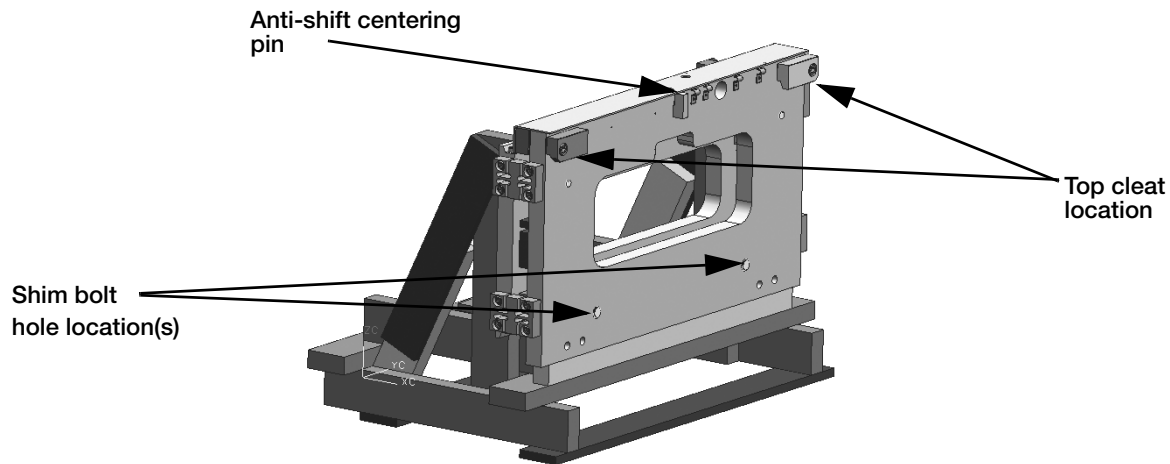

Figure 2-4. Anti-shift Centering Pin, Shim Bolts and Top Cleat Locations (One Scale Configuration Shown)
4. Carefully and slowly raise the scale carriage slightly so the top cleats (cleat location shown in Figure 2-4) of the scale hook onto the forklift carriage. If they do not hook, push the scale toward the forklift as it is being raised.